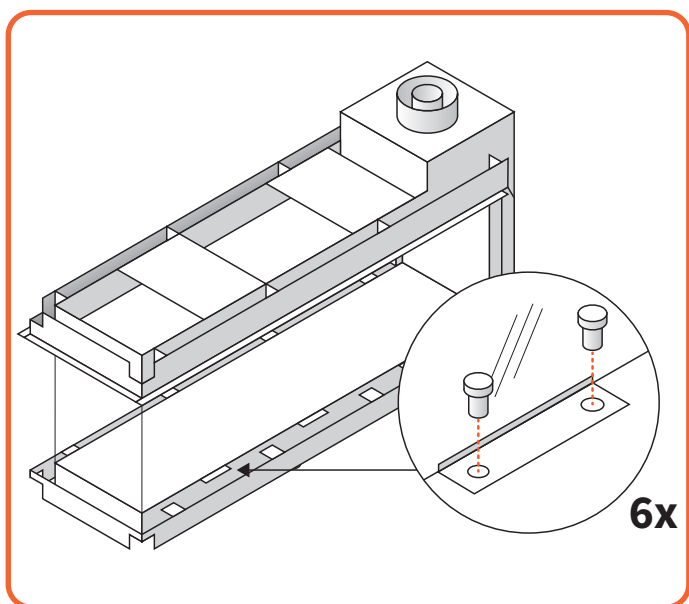

Figure 11.11 | Remove glass clamps
- Remove the glass clamps. (See Figure 11.11)